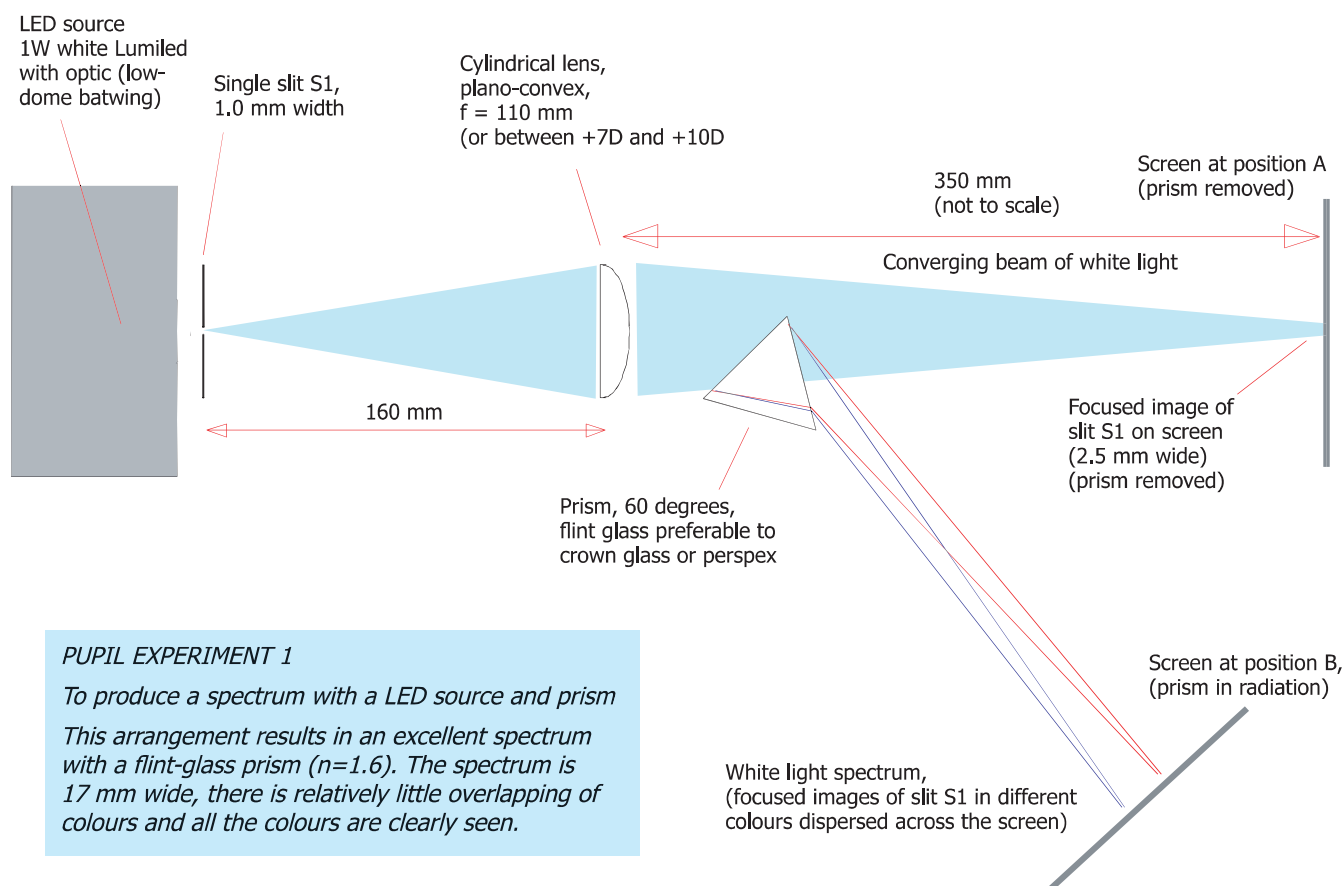

Figure 5 - Optical setup to produce a spectrum with a prism.
1. Dispersing white light with a prism (Fig. 5).